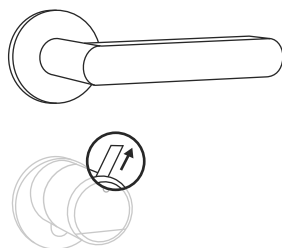

Fig. 11
- ⑧ If you have not already done so, remove the battery protection strip from the battery compartment on the inside knob (Fig. 11).